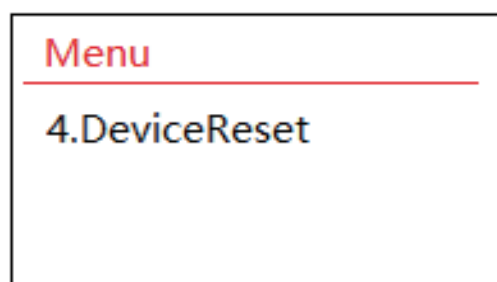

Fig. II.7.1
- 2) Choose “Device Reset” and press the  button to enter the reset confirmation interface. Refer to Fig. II.7.1.